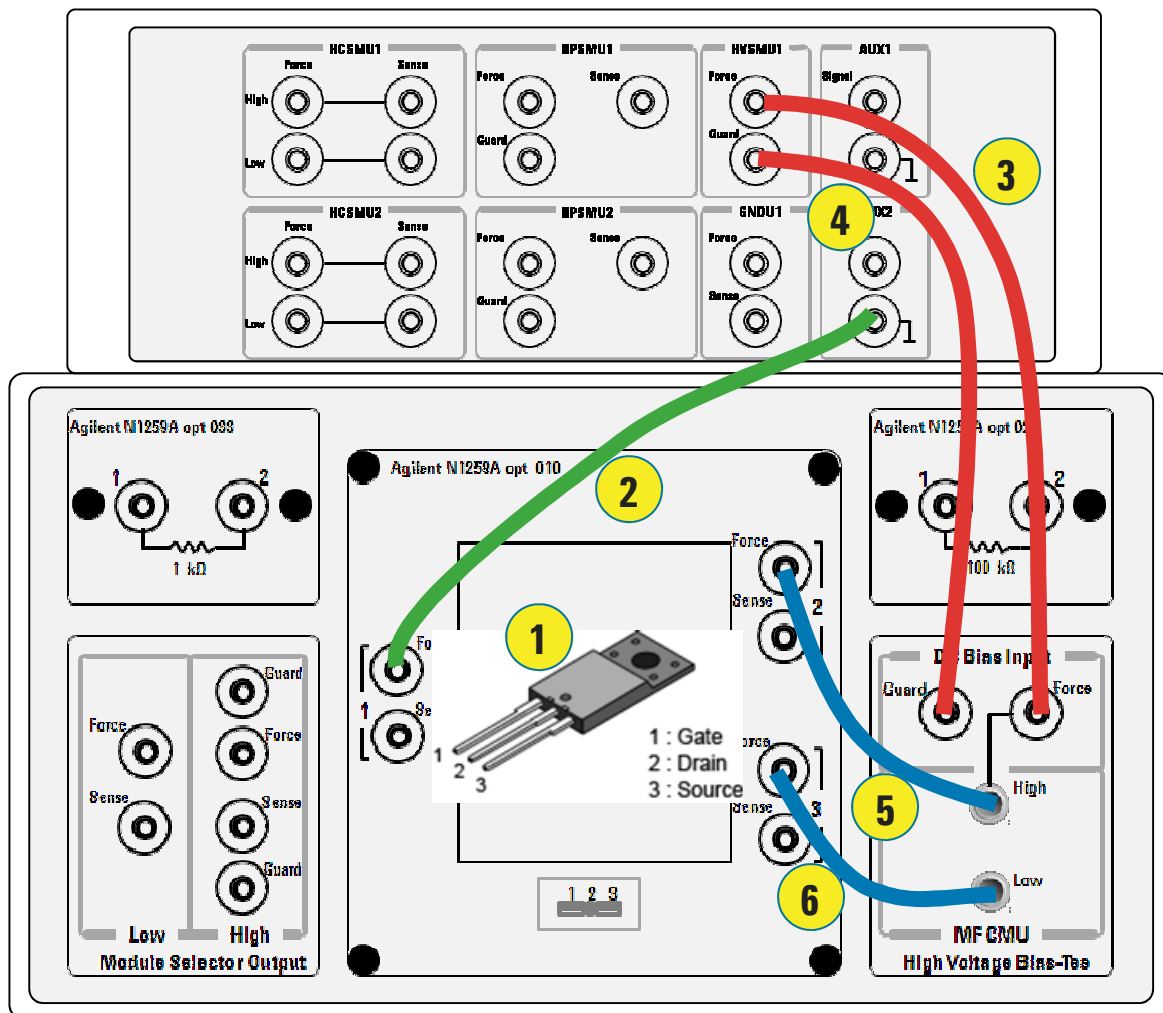

Figure 3-70. Connection for Cds capacitance measurement.
Open the N1259A test fixture cover, and connect the test leads, SHV cable and SHV-Banana Adaptor shown in figure 3-65 by following the step numbers shown in figure 3-70. The numbers of the procedure steps correspond to the numbers on the drawing for connecting the test leads and SHV cables.
Step 1. Insert the power MOS-FET (example: 2SK3745LS) into the socket on the N1259A. Make sure the device pin name matches the socket numbers shown in figure 3-70.